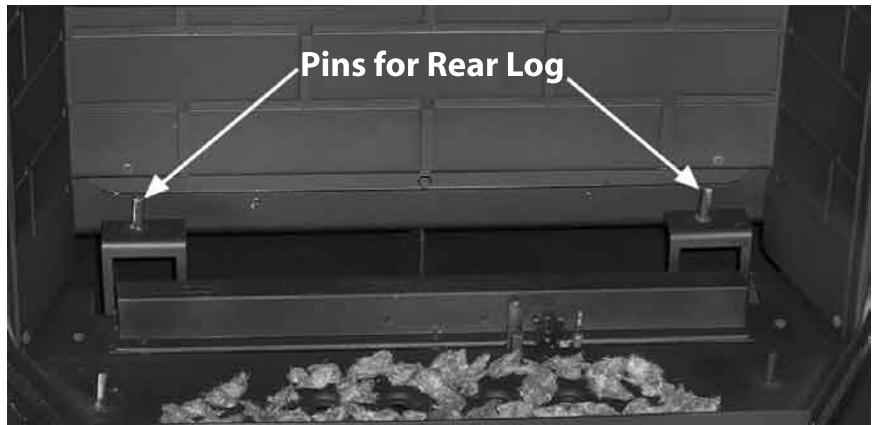

Figure 32: Step 2 of Log Placement.
1. The embers can be place before or after the logs are placed. A bag of ceramic fiber embers and rock wool embers is provided gently remove the ember material from the plastic bag. Spread a layer loosely in a random manner across the burner tray. Do not allow any embers to rest against pilot assembly. (See Figure 32 or 35 for proper ember placement.)